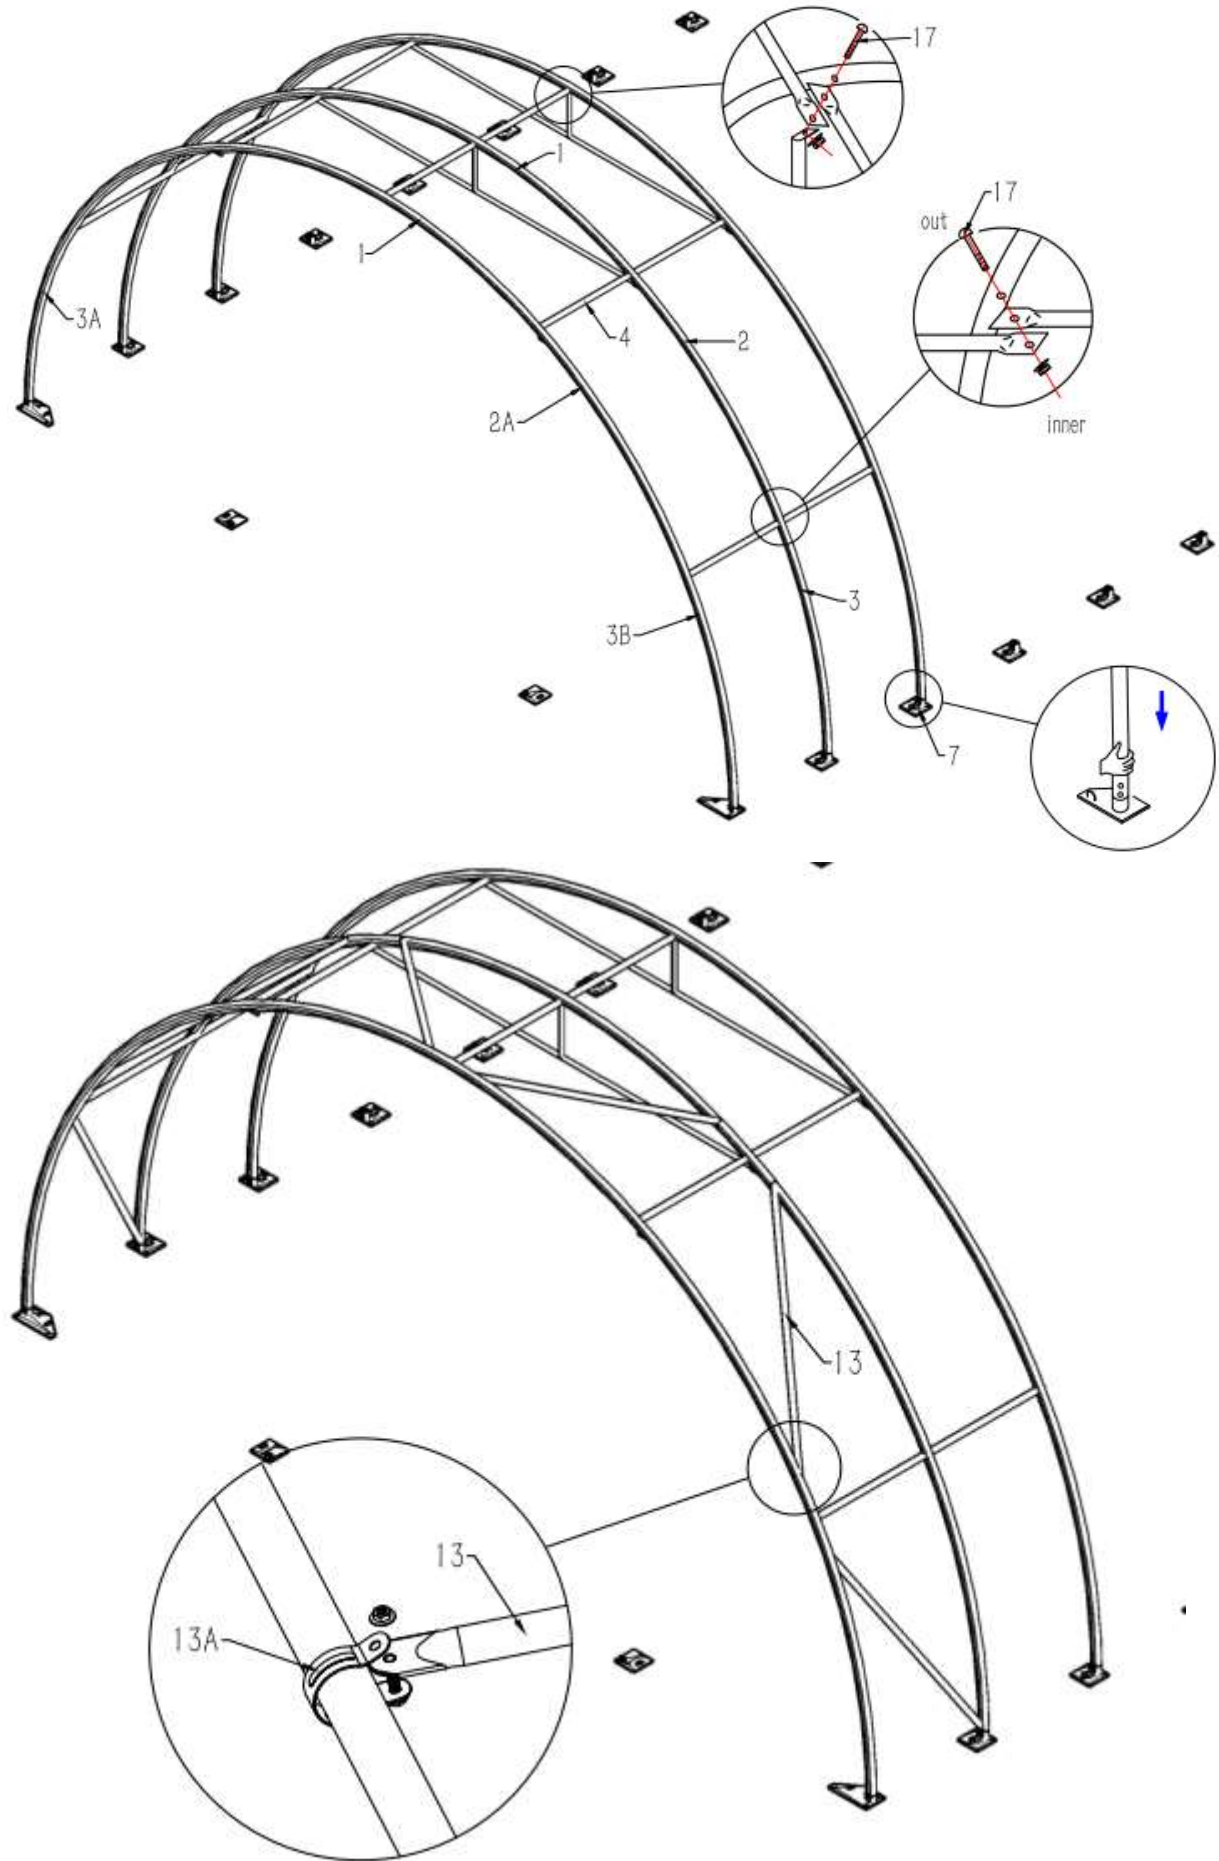

Figure 5
4. Connect the Diagonal Bracing Tube (No.13) with clip (No.13A) between the Lower Bent Tubes as figure 5.